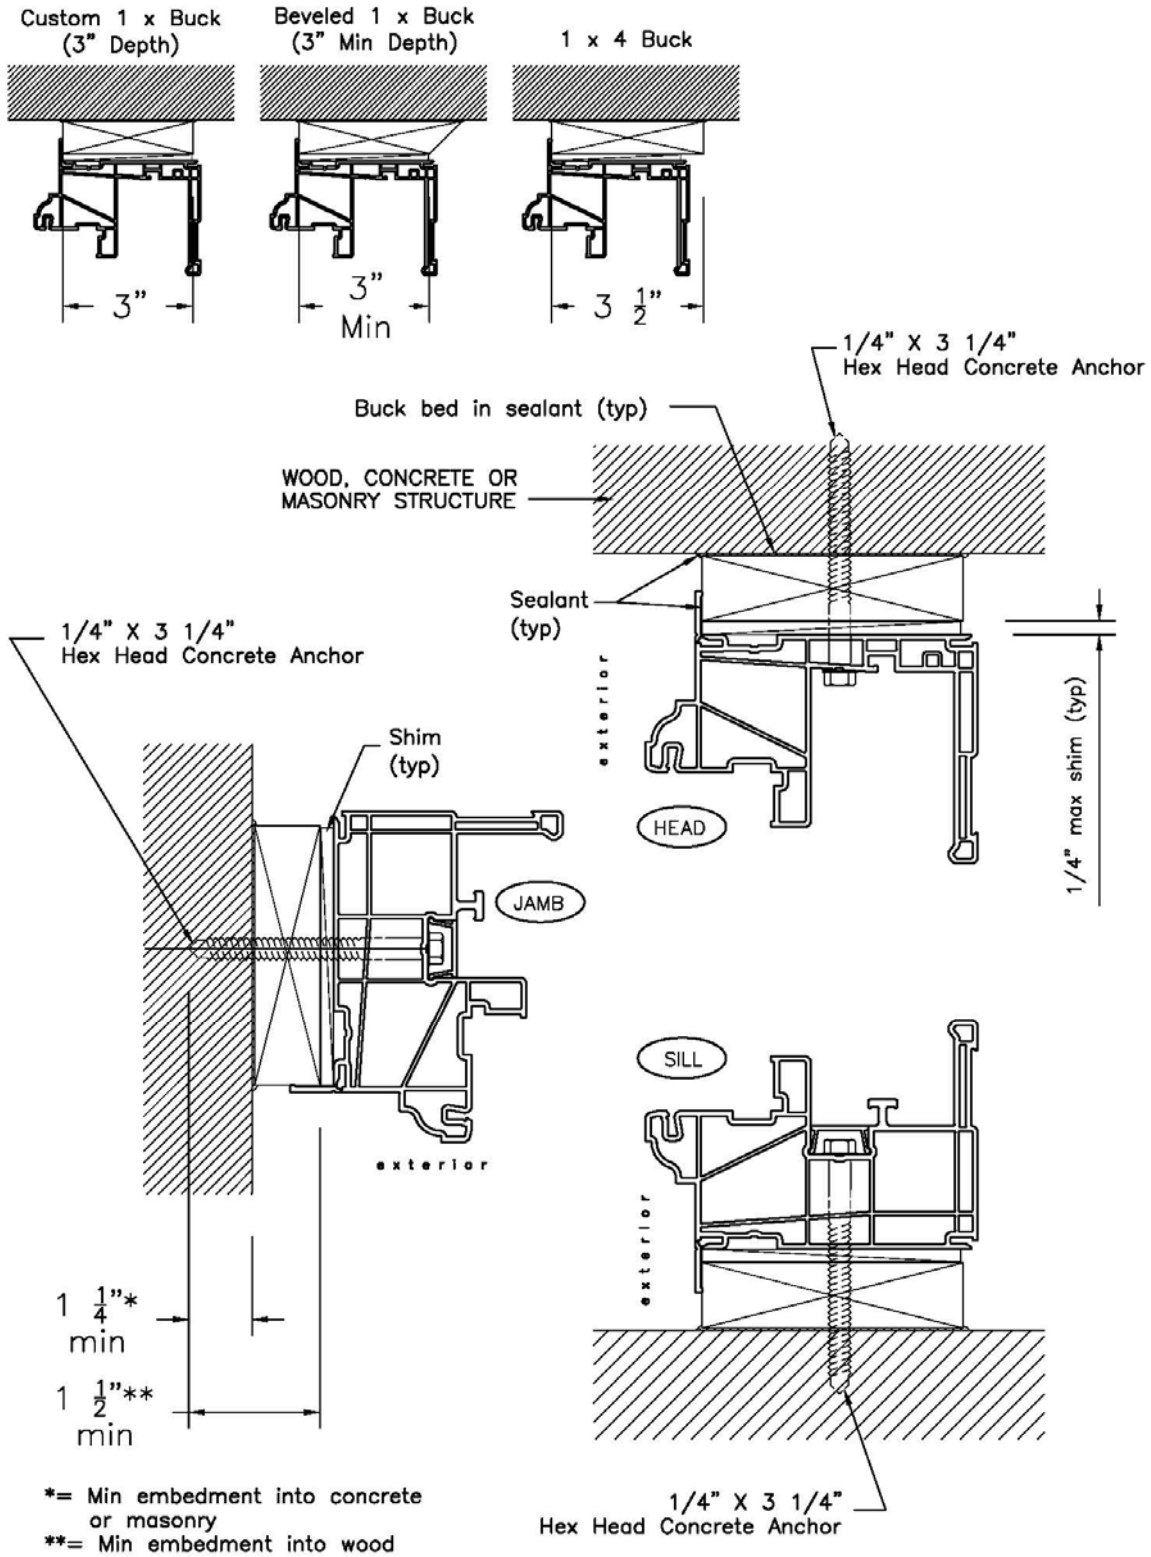

Figure 6: Installation type "A" using 1 x bucks
3. If installing flange windows, clean window flange and apply a generous amount of professional grade sealant / caulking material to flange at full perimeter (figure 2). Make sure the sealant is compatible and will adhere to vinyl and wood. If installing equal leg frames (figure 6), the perimeter sealant is applied after window is installed.